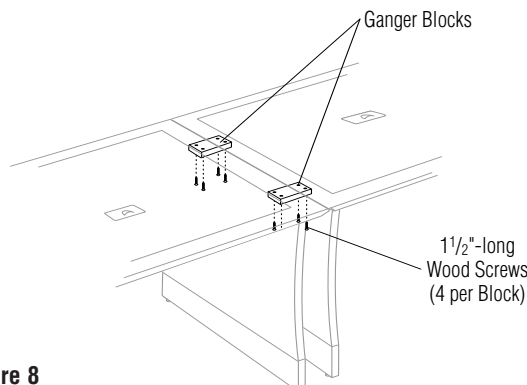

Figure 8
9. For ganged and/or electrically interconnected tables, attach two wood ganger blocks with 1 1/2"-long wood screws to the underside of the table top on each end (Figure 8).